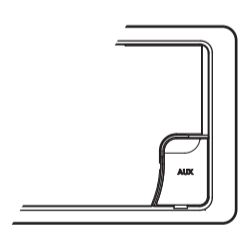

Figure 7 / Figure 7 / Figura 7 / Figura 7
3. Close the AUX CAP. (Figure 7)
3. Fermez le cache Aux (Figure 7).